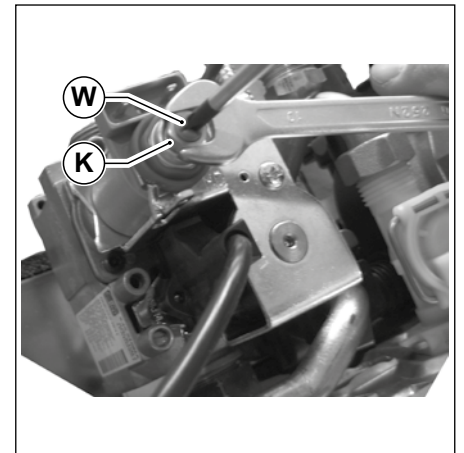

Fig. 49 Gas valve setting
- turn nut **K**CLOCKWISE (see Fig. 49 Gas valve setting) the pressure at nozzles increases, by turning ANTICLOCKWISE the pressure at nozzles decreases.
- Adjust pressure as follows: hold nut **K** with a 10 mm wrench, then turn screw **W** CLOCKWISE to increase pressure, COUNTER CLOCKWISE to decrease it (see Fig. 49 Gas valve setting).